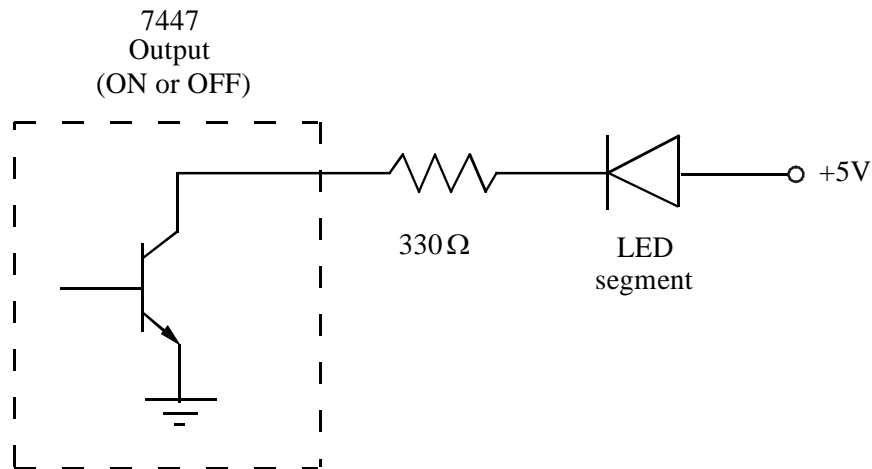

Figure 8.4 Output Circuit of 7447 and LED Driver
If the 7447 decoder driver is now properly connected to a 7 segment LED display, the count from the counter will be displayed in an easily recognizable form. It should be noted that the decoder driver does not actually drive the segment LEDs by supplying current to them; instead, it sinks current from them. Referring to Figure 8.4, the LED is on when the 7447 output is low (0), allowing current to flow to ground. The output is low when the transistor is in saturation, which occurs when the base of the transistor is high. When the transistor is in cutoff (when the base is low), the output will effectively be an open circuit. In this case, no current flows and the LED is off. 330 ohm resistors are used to limit the current that is drawn by the decoder driver and to prevent burning out of the LEDs.